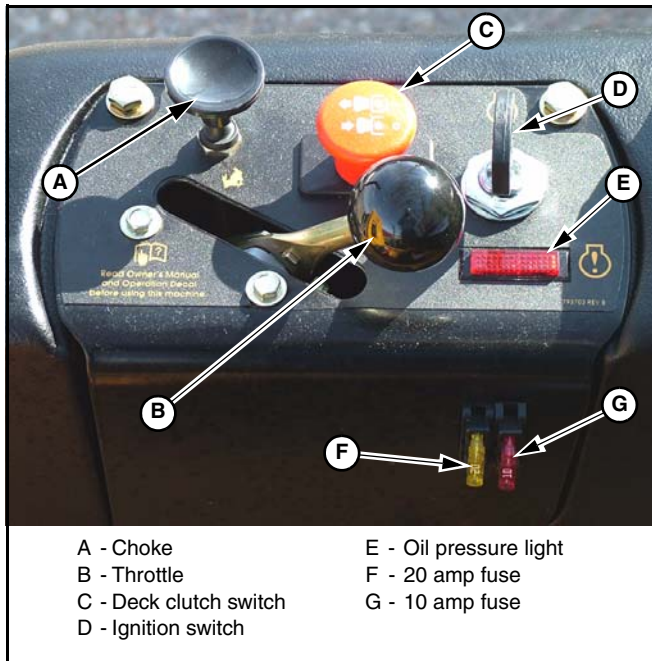

Figure 3-1
- A. Choke control (Fig. 3-1)** — a cable is linked to manually operate the engine choke. When the control knob is in the down position, the choke is in the off (run) position. When the control knob is pulled up, the choke is in the on (start) position. **Do not** operate the machine in the on (start) position.
- B. Throttle control (Fig. 3-1)** — a cable is linked to engine throttle for controlling engine speed. Move lever forward to increase engine rpm, move lever rearward to decrease engine rpm.
C. **Deck clutch switch (Fig. 3-1)** — this switch engages the deck. Pull the switch up to engage and push switch down to disengage the clutch.
D. **Ignition switch (Fig. 3-1)** — a three position switch: off, run, and start. With key inserted, rotate it clockwise to START position; release key when engine starts, and switch will automatically return to the RUN position.
E. **Oil pressure light (Fig. 3-1)** — this light comes on when the ignition switch is placed in the RUN position and stays lit until the engine is running and a safe oil pressure is developed. If light comes on during operation, shut engine off immediately and locate and correct the problem.
F. **20 amp fuse (Fig. 3-1)** — Main - 20 amp, blade-type
G. **10 amp fuse (Fig. 3-1)** — Clutch/Aux - 10 amp, blade-type